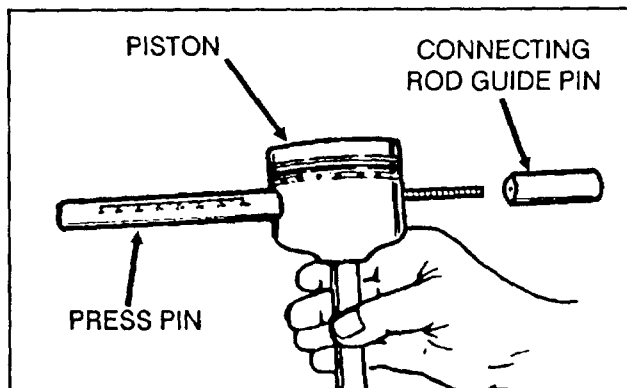

Figure 3
3. Insert the press pin through the piston pin hole. Refer to the application chart on Page 4 to select the correct connecting rod guide pin. Thread the guide pin onto the threaded portion of the press pin. See Figure 3.